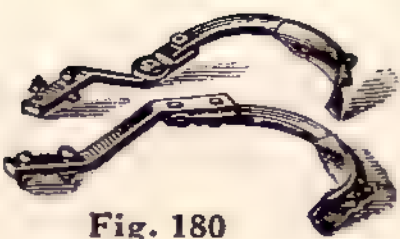

Fig. 180
This form of the No. 605 is made up by adding thereto Fig. 180 Furrow-closing Attachment with its two additional teeth. In this way an extremely efficient type of seven-tooth cultivator is produced, and one which we highly recommend.
is this true when the cultivator is opened wide and the center tooth or sweep cannot close the furrow because of this width. The teeth on Fig. 180 do this job well. The complete cultivator may be bought and the attachment, Fig. 180, added at any time.
- No. 607-FEP—7-Tooth Cultivator with Lever Expander, Plain Wheel, and Fig. 180.
- No. 607-FEL—7-Tooth Cultivator with Lever Expander, Lever Wheel, and Fig. 180.
- No. 605—5-Tooth Cultivator without Lever Expander, without Wheel, and without Fig. 180.